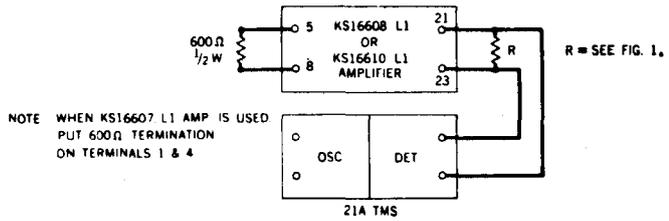

Fig. 6—Test Setup for Measuring Noise
| 2 | Connect the circuit as shown in Fig. 6.   |  |
**6.01** Measure the unweighted amplifier noise as shown in Fig. 6. The 21A TMS is used to measure the noise since some of the noise levels are out of range of the 2B or 3A noise measuring set due to the high amplifier gain. The readings obtained are arbitrary readings and are not true noise levels since a DET (TMS) is not a direct